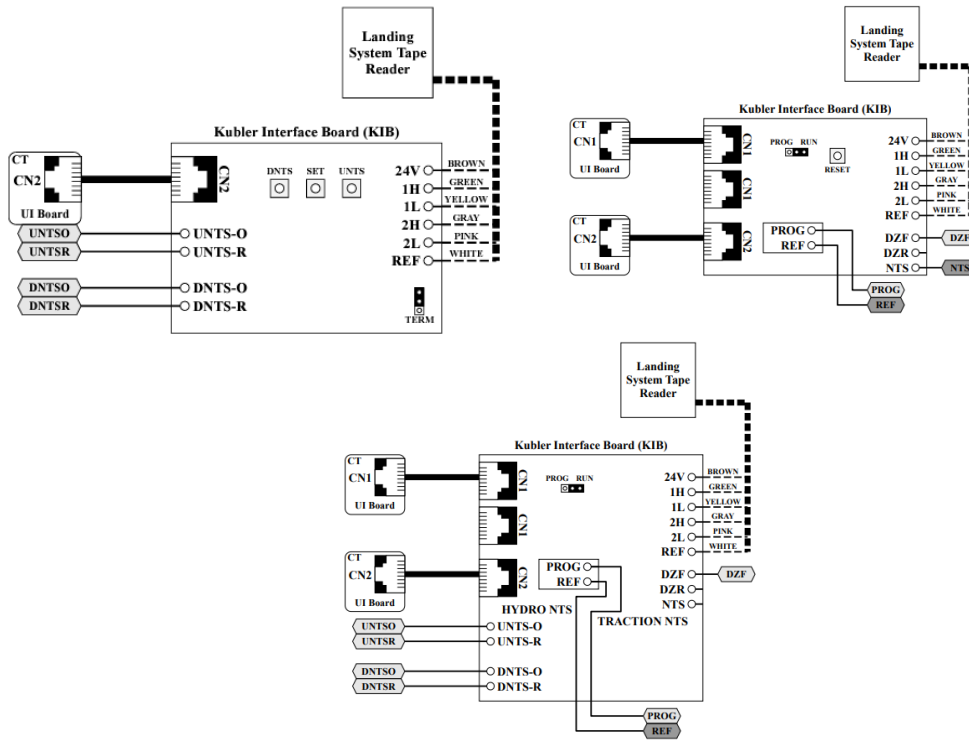

Figure 35: Sensor head connection to KIB Hydro board (Top Left), KIB Traction board (Top Right) and KIB H/T Board (Bottom)
20. Connect the 6 wires of the sensor for power and communication to the KIB Hydro board or KIB Traction board located inside the CT Box. See Figure 35